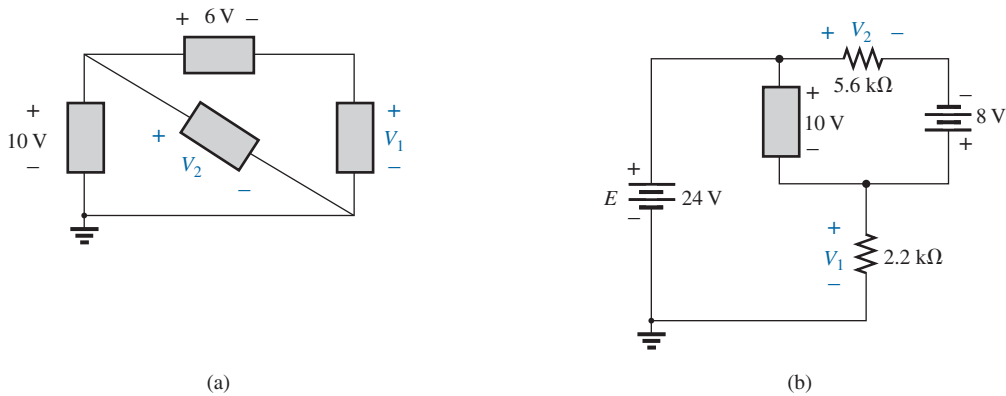

FIG. 5.106
- 22. Using Kirchhoff's voltage law, determine the unknown voltages for the series circuits in Fig. 5.106.